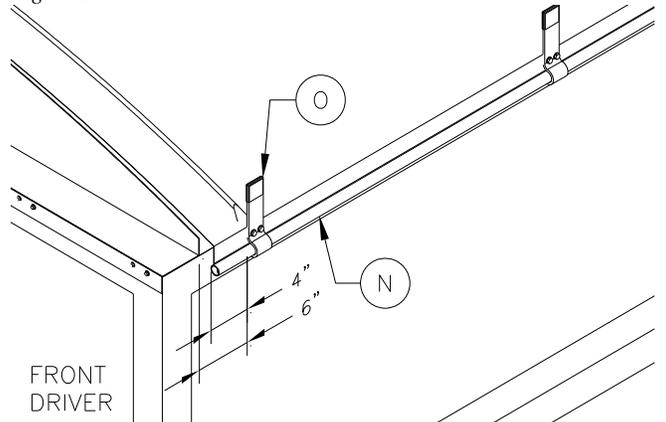

Figure 6
**Procedure:** Raise the roll tube and place it on the top of the box so that it rests on the hoops and hoods located on the driver side (standard rolls would rest on the passenger's side) making sure that the spline (L) is at the rear of the box. Roll out the tarp to the passenger's side (driver side for standard roll) position the tarp so that the material sits 2 inches back from the face of the front hood as shown in Figure 6. The pop rivets holding the tarp to the roll tube should be at a 45-degree angle from the edge of the holdback flange. At this position when the tarp is tightened the rivets will face downward. Once in position pry the roll tube under the holdback's locking flange using 2 x 4 (M) lumbers to hold the roll tube in place. Smoothen the tarp out and apply as much tension to it as possible by pulling down on the loose end of the tarp. The pocket holding the quick release bars (N) should hang down the side of the box approximately 3 to 4 inches. The quick release bar will be held against the side of the box by the tarp stops (O) shown in Figure 6. Make sure the tarp material is 2 inches away from the face of the front hood. Mount the front and rear tarp stops 4 inches in from the edge of the tarp material. Drill a 5/16" hole through the predrilled tarp stop and into the box. Secure the tarp stops using the 3/8" X 1-1/4" self thread bolts provided. The remaining tarp stops are to be centered according to the length of the box. Make sure that the quick release bar is positioned parallel with the box lip.